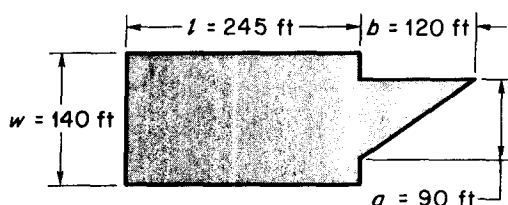

Fig. 1-11
3. A landscaper contracts to provide topsoil and to seed and lime the parcel of land shown in figure 1-11. In order to determine labor and material costs, the landscaper must first know the total area of the land. Find the total area in square feet.